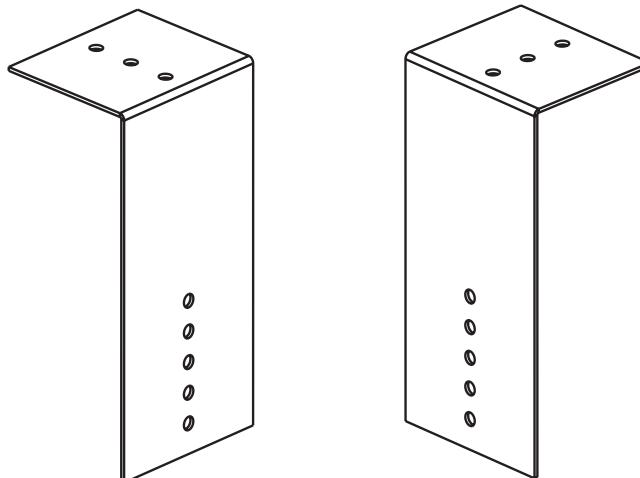

Figure 18. Concentric Adapter Box Brackets
- Secure longer angles on concentric adapter box brackets (see Figure 18) to concentric adapter box.
- b. Position concentric adapter box to match pipe runs and secure short angles of concentric adapter brackets (see **Figure 18**) to underside of roof using field-supplied hardware.